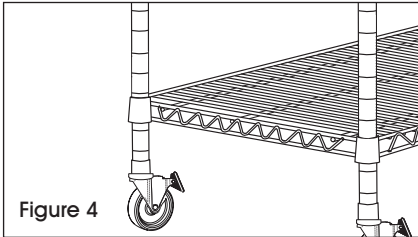

Figure 4
- Stand unit upright. Gently tap shelf down to secure it. (See Figure 4)